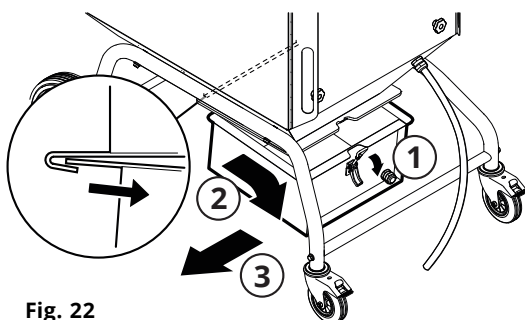

Fig. 22
3. Loosen the eccentric lock, raise the pallet truck up to the dust collector and use the pallet truck to pull put the collector. See **Fig. 22** as reference.
7. Slide the dust collector under the straining compartment, see **Fig. 22** as reference.